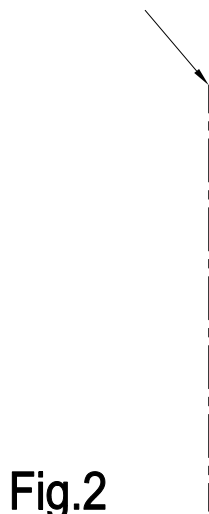

Fig.2
1. Draw a vertical line on the wall (Fig.2)